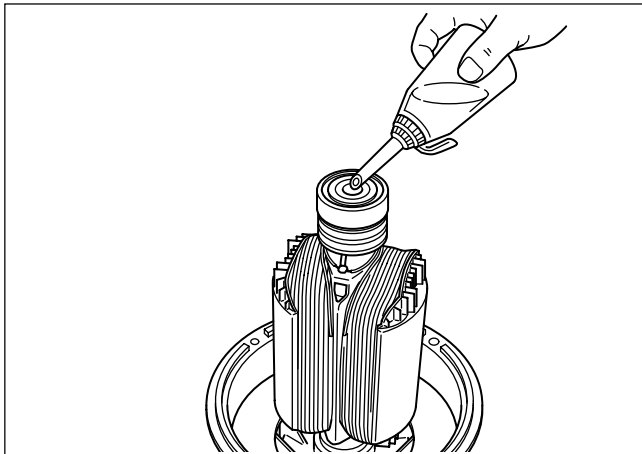
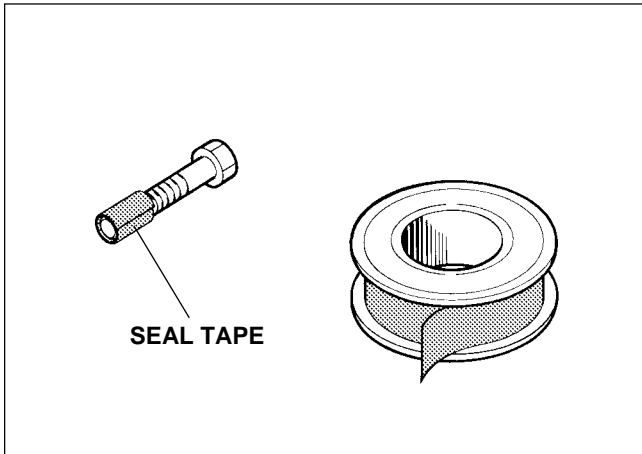

Fig. 10-18
Fig. 10-19
<p>(3) Use a bolt and oil as a tool for pulling out rotor in the following procedures :</p> <p>1. Pour engine oil into the center hole of rotor shaft. Fill with oil to the shaft end. (See Fig. 10-18.)</p> <p>2. Prepare a bolt with the following thread size : M12 x P 1.5</p> <p>3. Apply a few turns of seal tape around the tip of the bolt. (See Fig. 10-19.)</p>